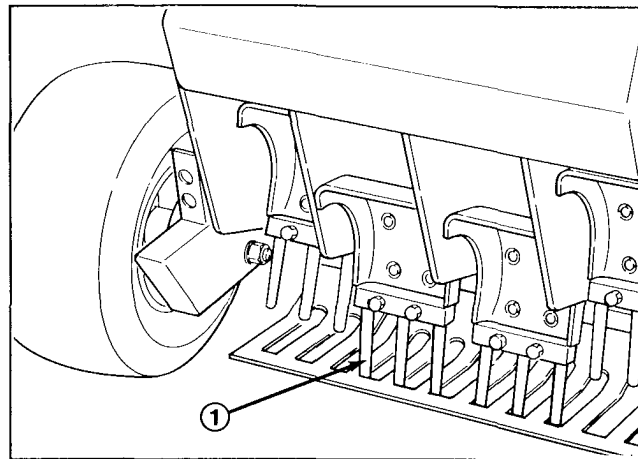

Figure 18
5. Tighten mounting nuts to 100–110 ft/lb. torque (Fig. 18).